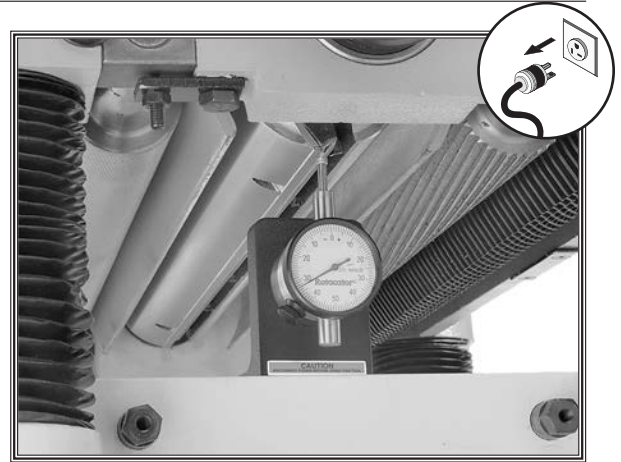

Figure 47. Example of using a Rotacator to find BDC.
5. Using your Rotacator, find bottom dead center (BDC) of any knife/insert edge by slowly rocking cutterhead pulley back and forth, then set Rotacator dial to "0" (see **Figure 47**).